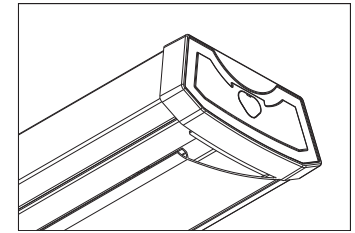

Figure 12
5. To install diffuser (B) - starting at one end of lamp base, insert diffuser slot onto edge of lamp base - See Figure 12. Carefully squeeze diffuser to engage opposite side with lamp base. Continue this action down length of diffuser until fully installed onto lamp base. (Figure 12). Turn on breaker and test light function.